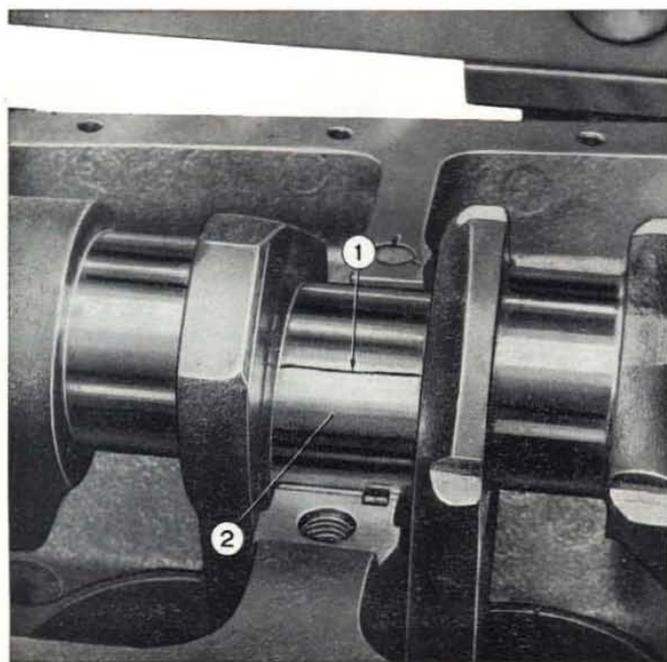

Fig. 76 - Arrangement of calibrated wire on main journal.
- Place a piece of « Plastigage » calibrated wire on journal (fig. 76).